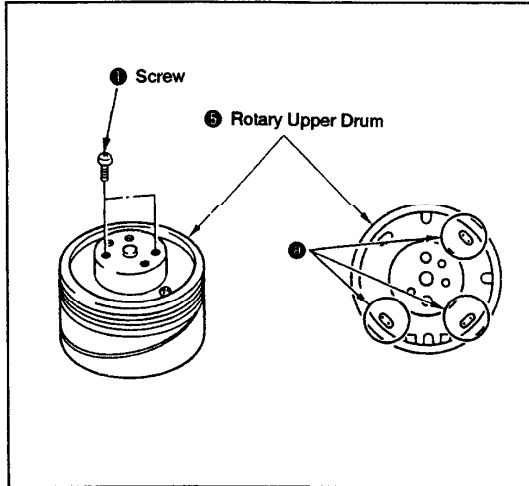
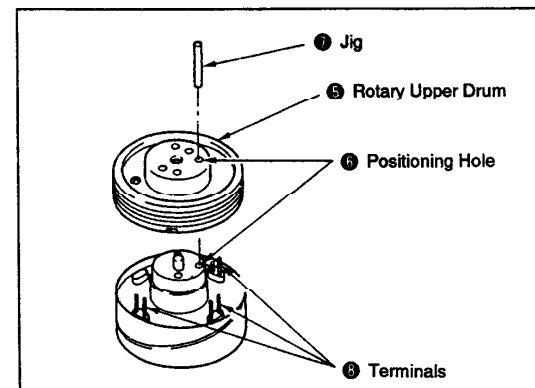

Fig. 3-22.
Fig. 3-24.
- 1) Detach the six solderings ①, then use a pair of tweezers or the like to confirm that the terminals passing through the board holes from below can move freely.
- 2) Remove the two screws ② (See Fig. 3-22).
- 1) Wipe clean the flange surface and the rotary upper drum ⑤ surface that makes contact with it, and confirm that they are free from dirt and scratches.
- 2) Insert the jig ⑦ (Ref. No. J-7) into the drum positioning hole, then set the rotary upper drum ⑤ by passing the jig through its positioning hole ⑥.
- Note:** Confirm that the terminals ⑧ protrude slightly from the rotary upper drum board holes (See Fig. 3-24).
- 3) Remove the jig ⑦ and push down the rotary upper drum ⑤ gently by hand. If it does not go all the way down, secure it temporarily by tightening the two hexagon socket screws ① alternately.
- 4) Insert the jig ⑦ into the positioning hole ⑥ again and confirm that it goes in smoothly. If it does not, loosen the two screws ①, repeat step 3 of the Removal paragraph and restart the setting procedure.
- 5) Tighten the screws ①.
- 6) Solder the terminals ⑧ (② in Fig. 3-22).